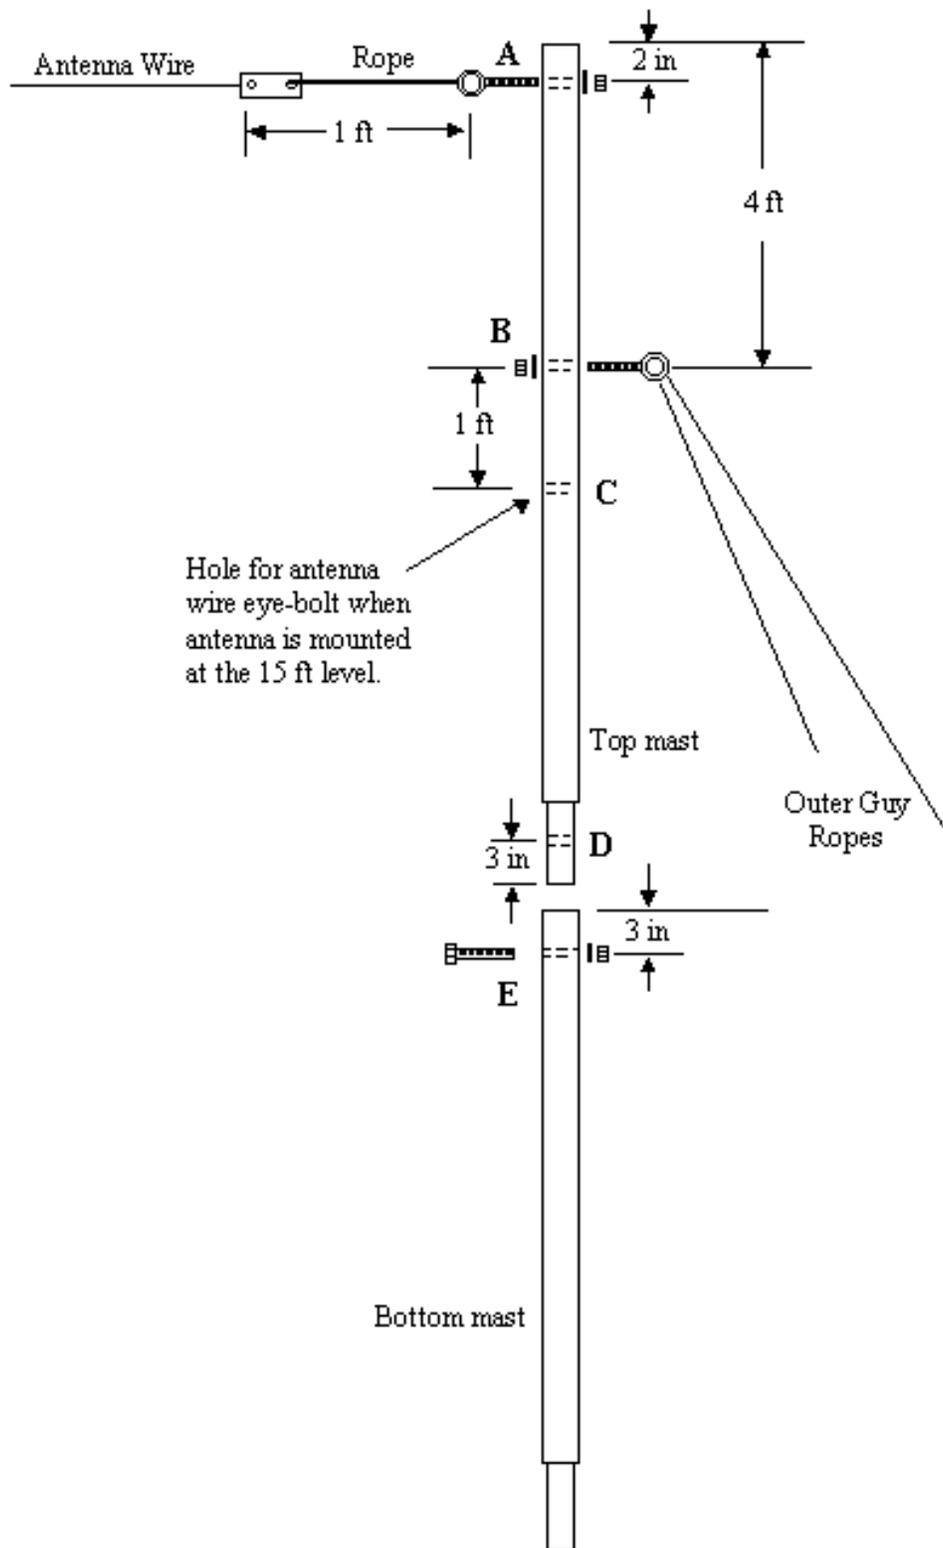

Figure 6.4. Metal Mast Assembly.
6.4. Metal Mast Assembly (Refer to Figures 6.4 and 6.5)
2. **O Refer to Figure 6.4.** *All holes through the masts are 1/4 inch diameter.* A hammer and punch (or nail) can be used to make a starting point for drilling. A pilot hole using a 1/8 in drill bit is recommended. Eyebolts and bolts should be secured using a flat washer, lock washer and a nut. All holes in the top mast should be in the same plane.
4. **O** Drill hole (E) thru the bottom mast.
5. **O** Insert the top mast section 6 inches into the bottom mast section. Using hole (E) as a guide, match-drill a hole though the top mast section – this becomes hole (D). The best way to match-drill the holes is to drill the inner mast from each side – using hole E as a guide. Then without moving the two masts relative to each other, run the drill all the way thru both masts
6. **O** Secure eyebolt in hole (B).
- B. *For the metal mast installation refer to Figures 6.4 and 6.5.* Cut 8 ropes to 21 feet. Attach 2 ropes to each of the eyebolts at the 16 ft level (hole B).